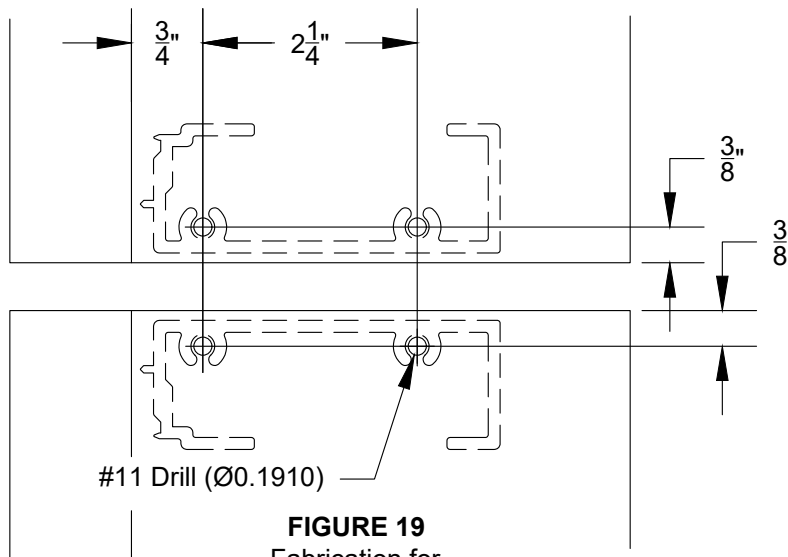

**FIGURE 18**
- 2.27 When using the WW-427 & WW-428, horizontals for the expansion horizontal connection fabricate top and bottom of mullion as shown in **FIGURE 17**. If using WW-527 & WW-528 fabricate per **FIGURE 18**.